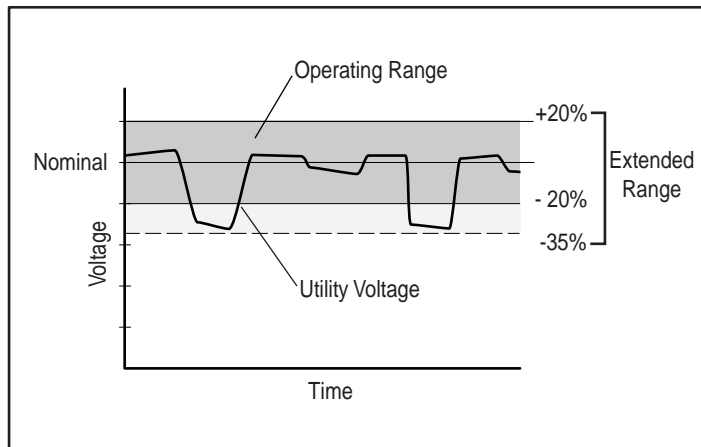

Figure 4-6. Utility voltage fluctuation indicating a possible need for extended range setting
- If the utility voltage frequently varies outside the UPS operating range (see Fig 4-6), consider changing from normal to extended range ($+20\%$ to -35%). This provides more tolerance to brief utility voltage fluctuations.